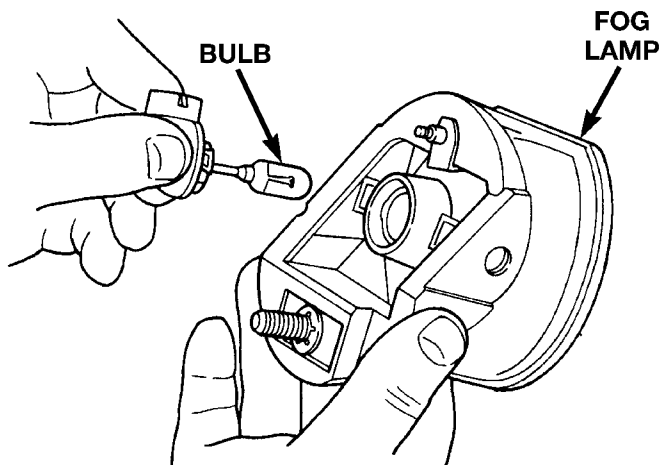

Fig. 2 Fog Lamp Bulb
- (1) Remove fog lamp from behind fascia.
- (2) Disengage wire connector from fog lamp bulb base.
- (3) Remove bulb from lamp (Fig. 2).